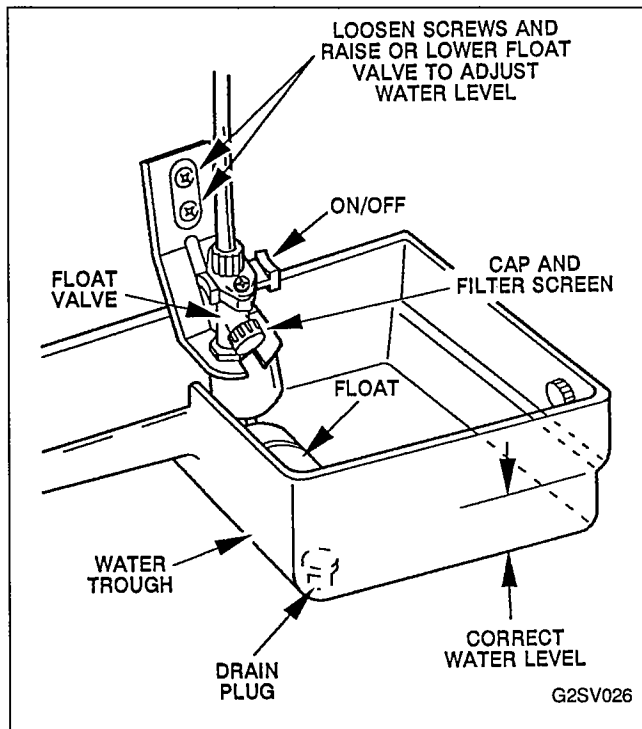

FIGURE 26. FLOAT VALVE CHECK
2. Remove drain plug from trough and allow water to drain. See Figure 26.